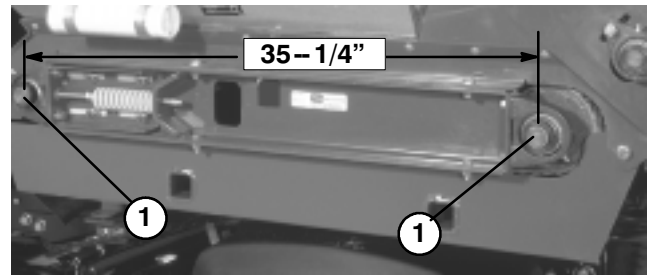

Figure 20
3. Check to insure that the center distance between conveyor belt roller shafts (Fig. 20), on each side of machine, are equal distance (approximately 35-1/4").